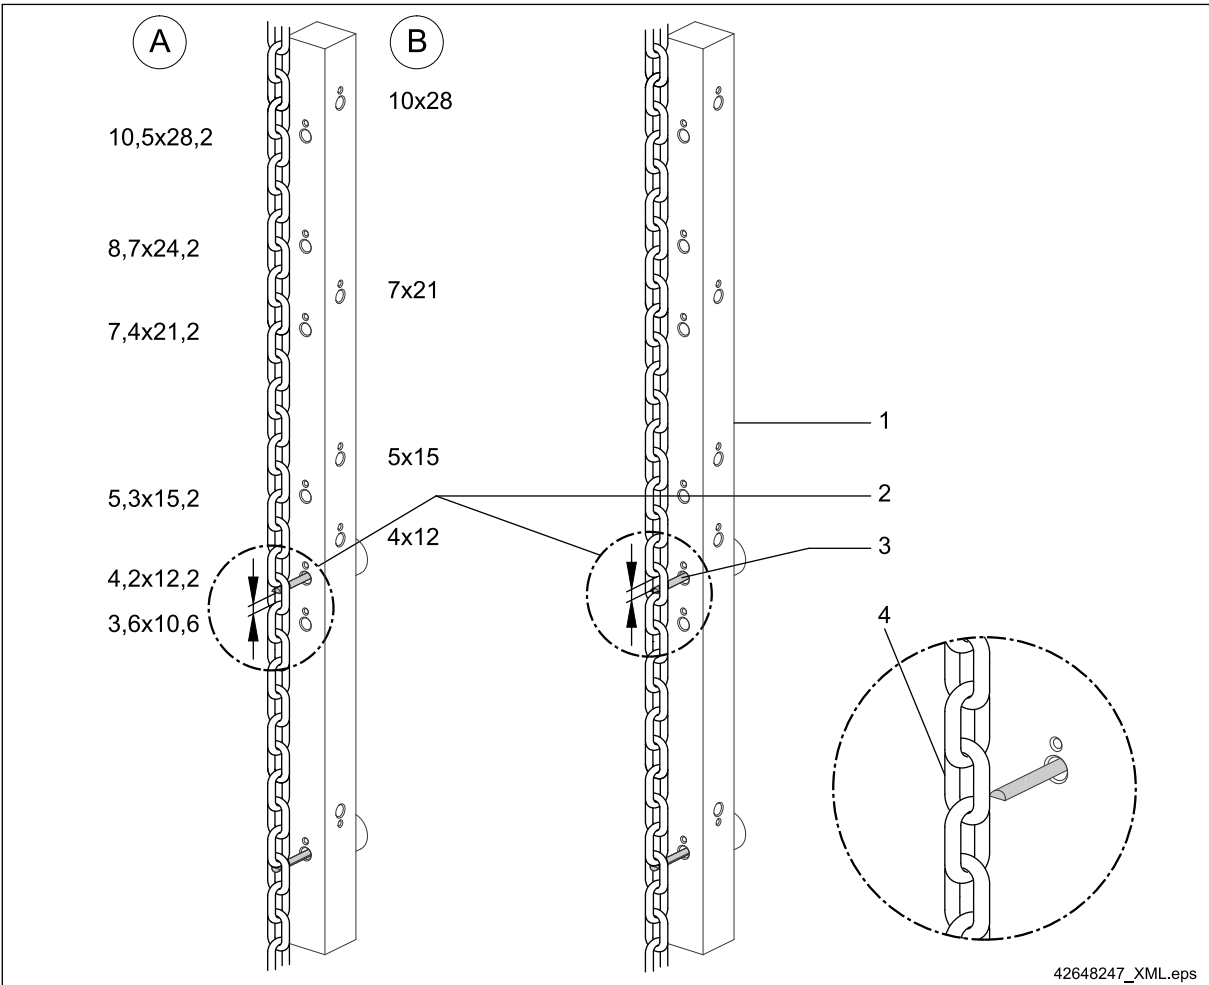

Fig. 61
- on 11 chain links ⇒ Fig. 61, Page 88.